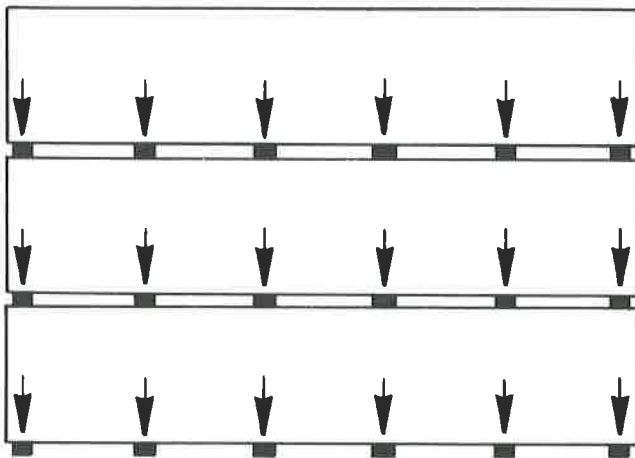

Fig. 3A
**4.4.3 Placement** — Careful placement of risers (Figure 3A) will minimize sagging, the most common problem caused by improper storage.